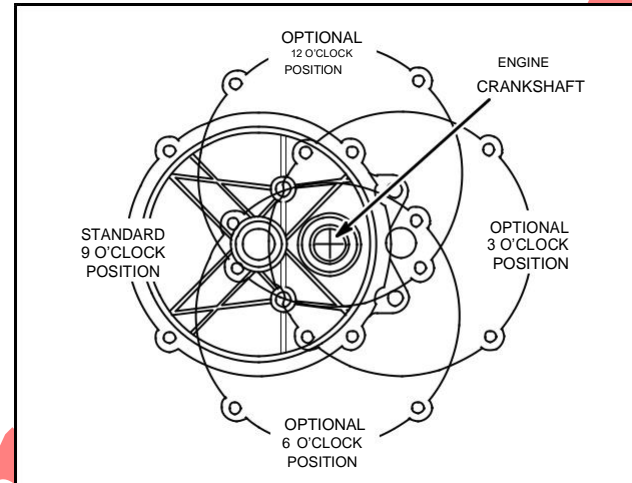

Fig. 140 – POSITIONING GEAR CASE ASSEMBLY
1. Note position of gear case assembly, Fig. 140.
1. Install gear case assembly in original position, Fig. 140.